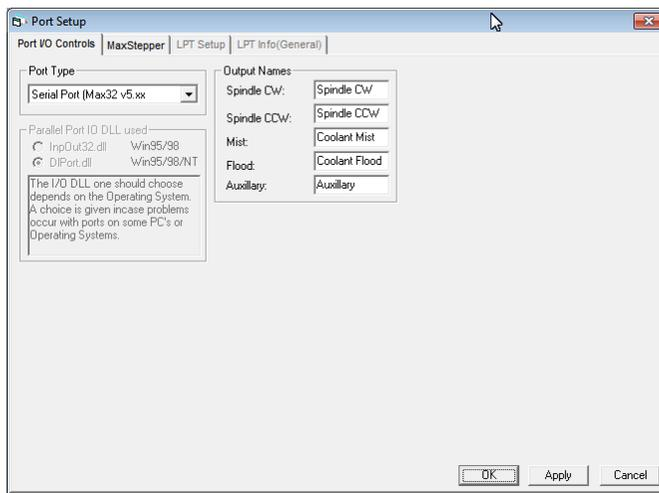

Figure 1
3. Select **Serial Port (Max32 v5.xx)** (Figure 1).